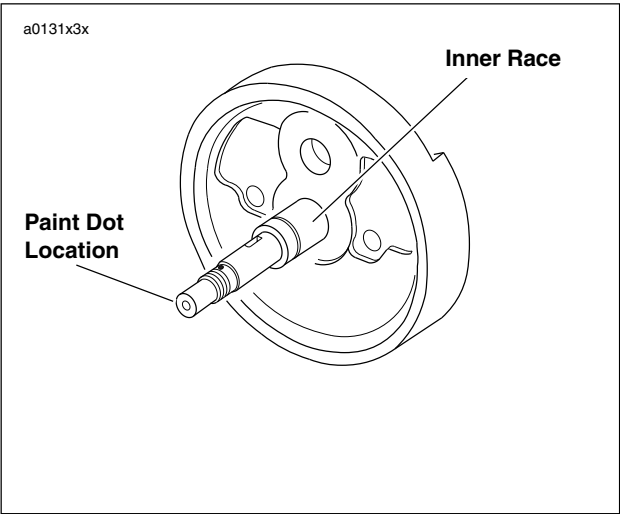

Figure 3-118. Factory Inner Race Paint Dot Location (See Table 3-32 for Identification)
14. See Figure 3-118. Installed inner races are identified at the factory as shown.